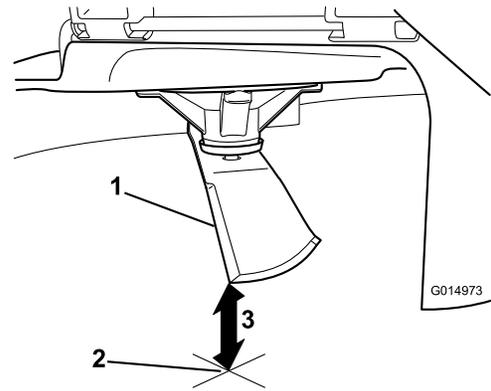

Figure 102
5. Measure from the tip of the blade to the flat surface (Figure 102).